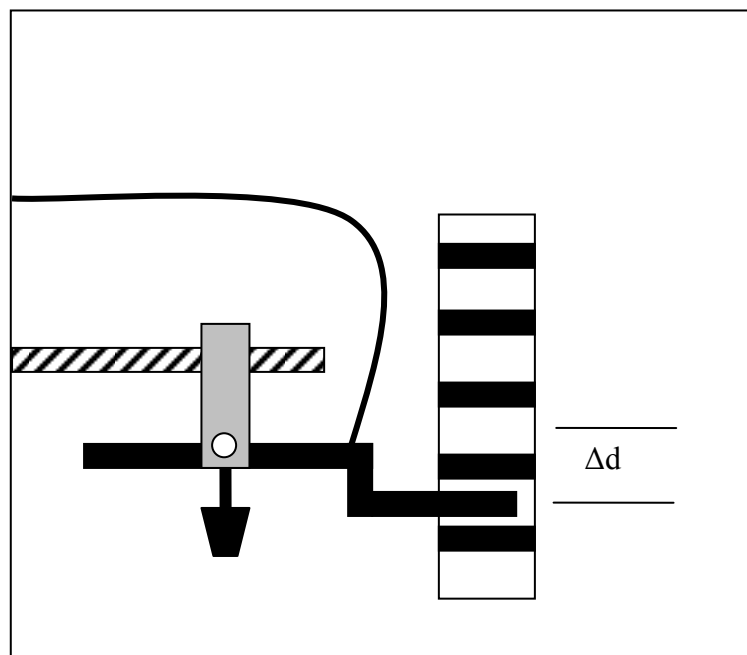

Figure 5.3: Equipment setup
1. Set up the apparatus as in Fig. 5.3. Measure  $\Delta d$ , the distance between the leading edges of adjacent bars on the picket fence, as shown. Record  $\Delta d$ .